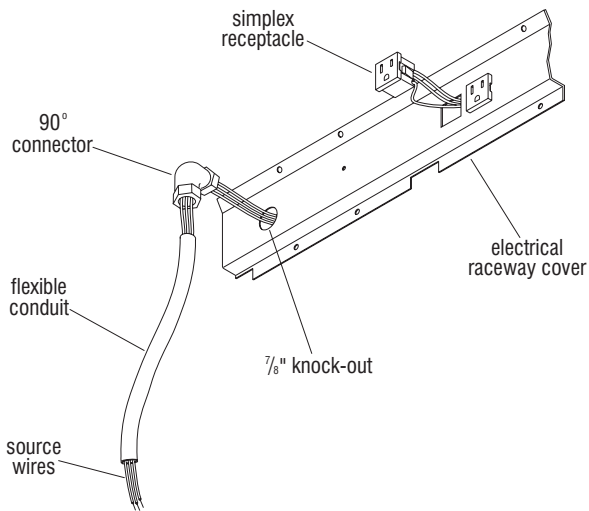

Figure 6
1. Remove the 7/8" knock-out at the appropriate end of the hardware electrical raceway cover. Attach a 90° connector to the raceway cover at the knock-out and attach the length of flexible conduit to the connector. Make required wiring to simplex receptacles, snap the receptacles into the raceway cover and feed the source wires through the 90° connector and flexible conduit. (Figure 6).